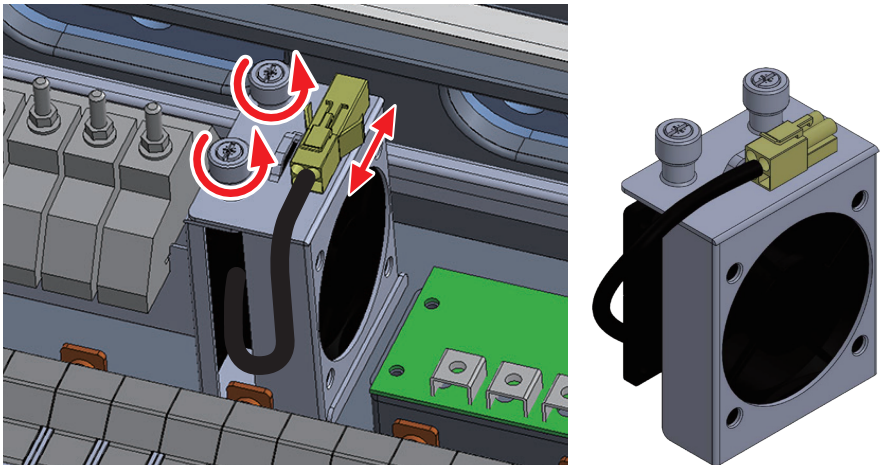

Figure 5-16: Procedure for Removing WB fan assembly
- (1) To access Remove the two thumb screws shown in **Figure 5-16** and store outside the fan cabinet.
- (2) Disconnect the fan power connector (yellow body shown in **Figure 5-16**) located at the right front of the fan cover.
- (3) Lift the entire fan assembly from the WB.
- (4) Clean assembly or replace with a new fan.
- (5) Reassemble using a tightening torque of 8.85 lbf-in (1 N·m)